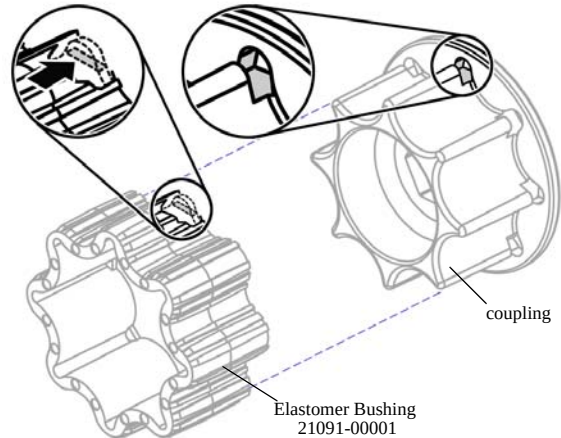

Figure 13-7: Install Elastomer Bushing
2. Making sure tabs on elastomer bushing go on first, align new elastomer bushing with coupling, and slide on until seated. See Figure 13-7.